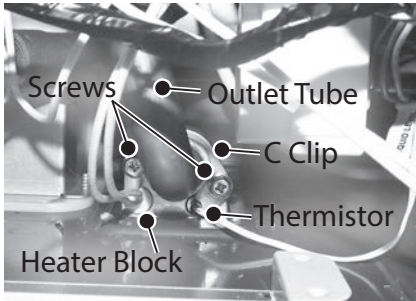

Figure 189 - Removing C clip and screws
- 15** Locate the C clip securing the outlet assembly to the water piping. Remove the two screws securing C clip. Place screws and C clip aside in a safe place for reinstallation. See Figure 189.